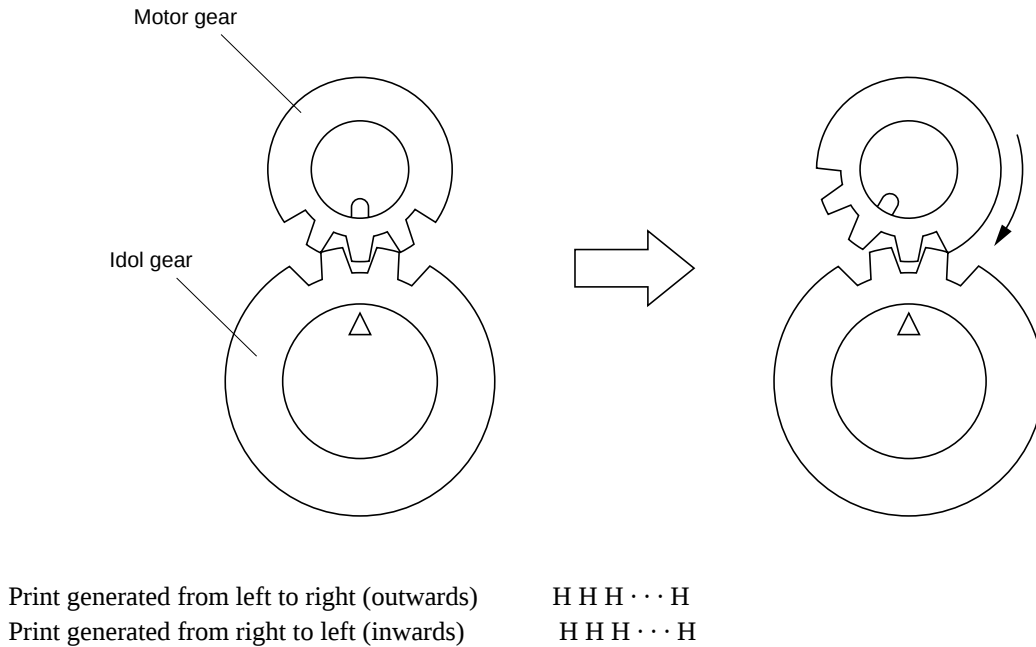

Fig. 1-6 Adjustment B for dot alignment
2. Move the motor gear the equivalent of one tooth. Reattach the idol gear and stop ring. The positioning of the motor gear in relation to the idol gear is illustrated in Fig. 1-6 (refer to the placement of the  $\Delta$  and  $\square$  symbols). (Make sure that the  $\Delta$  and  $\square$  symbols are not aligned.)